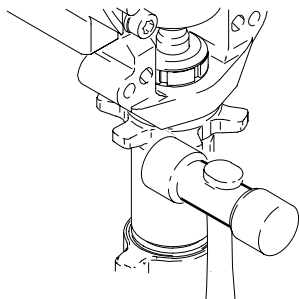

Fig. 14
4. Fig. 14. Loosen locknut by hitting firmly with a plastic hammer. Unscrew pump.